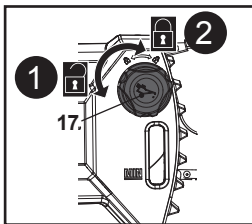

Fig. 9
1. Place the product on a stable, level surface with the oil tank cap (17) facing upward. We recommend laying a non-flammable sheet under the product.
2. Unscrew it anticlockwise and remove the oil tank cap (17) (Fig. 9, step 1).
5. Check the oil level window (18) prior to start-up and regularly during operation. Refill oil when the oil level is close to the bottom of the oil level window (18).
6. Wipe up spilled lubricant with a soft cloth and refit the oil tank cap (17) (Fig. 9, step 2).